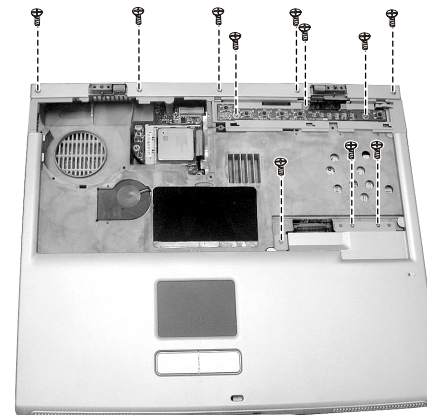

Figure 2-24 Remove nine screws
3. Remove eleven screws fastening the top cover and the easy start / LED board. Then detach the top cover. (Figure 2-24)